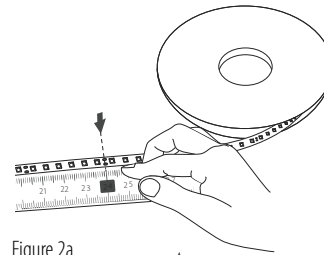
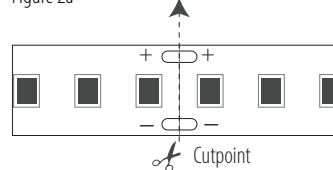

Figure 2a
Figure 2b
- b. Measure out the length of LED tape needed for the specific run. (Figure 2a) Cut the tape at the first cut location short of the stick's length. Do not cut through the tape anywhere else as this will damage the circuit. (Figure 2b)